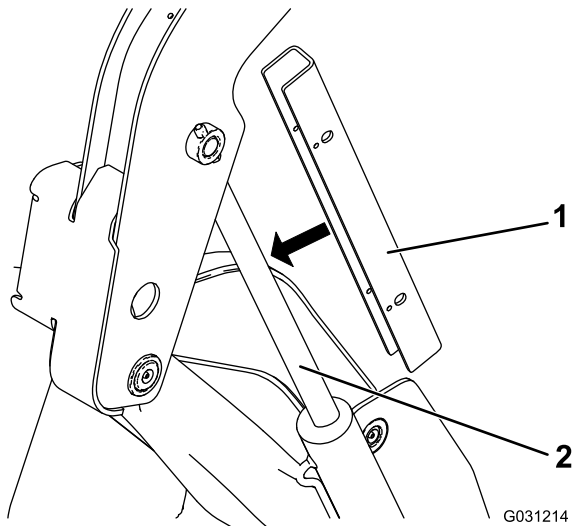

Figure 38
5. Slide the cylinder locks over the lift-cylinder rod (Figure 38).